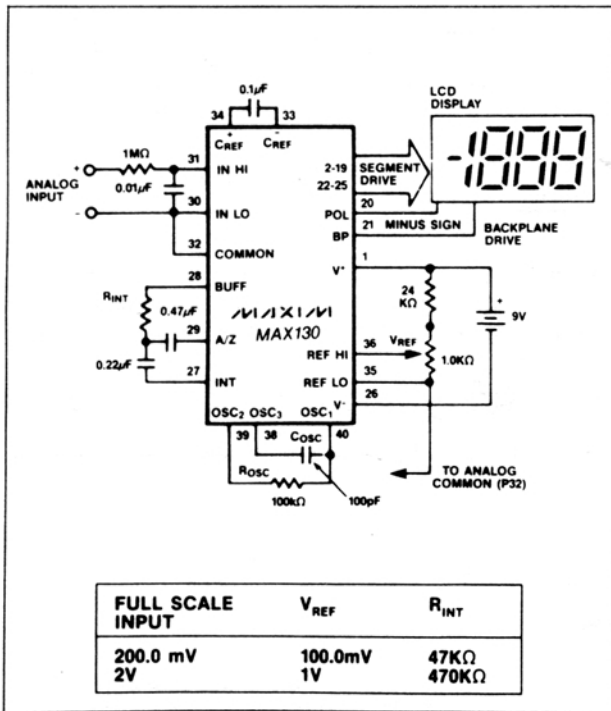
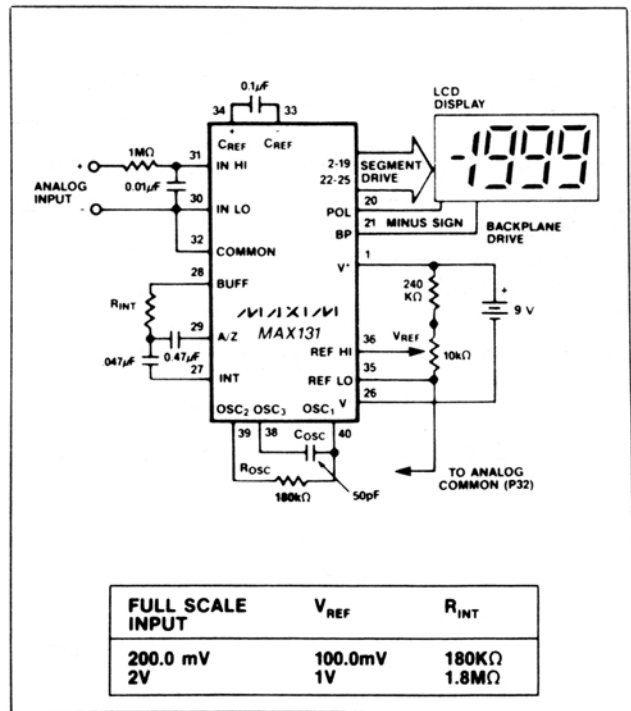

Figure 1. Maxim MAX130 Typical Operating Circuit, 3 Conversions per Second
Figure 2. Maxim MAX131 Typical Operating Circuit, 3 Conversions per Second
(V+ = 9V, TA = 25°C, fCLOCK = 48kHz; test circuit - Figure 1; unless noted)
(V\* = 9V, TA = 25°C, fCLOCK = 48kHz; test circuit - Figure 2; unless noted)
**Note 3:** Test condition is VIN applied between pin IN-HI and IN-LO through a 1MΩ series resistor as shown in Figures 1 and 2.
**Note 4:** 1MΩ resistor is removed in Figures 1 and 2.
Figures 1 and 2 show the basic MAX130 and MAX131 applications circuits. Note that the circuits for the MAX130 and the MAX131 use different values for the integration and oscillator components. The MAX130 can operate using the MAX131 component values, but the MAX131 will not operate using the MAX130 component values. The lower supply current device, the MAX131, must always use the higher value integrator resistor as shown in component value table in Figure 2. With a typical operating current of only 65µA, the MAX131 will operate for about 8500 hours when powered by a typical 550mAh alkaline 9V battery. The MAX130 will operate for 2200 hours with a 550mAh battery.
The MAX130/131 can easily be used with ±5V supplies. Connect  $V^+$  to +5V,  $V^-$  to -5V. If the voltages to be measured are referred to ground, then connect In Lo to ground. In most cases, Ref Hi and Ref Lo should be connected to a resistive divider string between  $V^+$  and Common, as shown in the standard application circuits of Figures 1 and 2. If Common is not used to generate the reference it can either be left floating or can be connected to ground. If the MAX130/131 oscillator is driven by 5V logic, or if the MAX130/131 LCD outputs drive 5V logic, then connect the Test pin to ground. If the MAX130/131 open circuit Test voltage is above ground, then connecting Test pin to ground will set the internal digital ground to approximately ground. If, however, the open circuit Test voltage is negative, then the internal digital ground voltage will remain negative, additional  $V^+$  supply current will be drawn, and the LCD segments will continue to swing